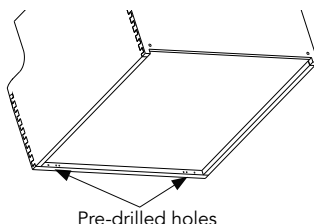

FIGURE 3B
Using (4) #6 X 1/2" pan head screws, attach the left and right slide triggers and set the wood box to the side (See Figure 3B).